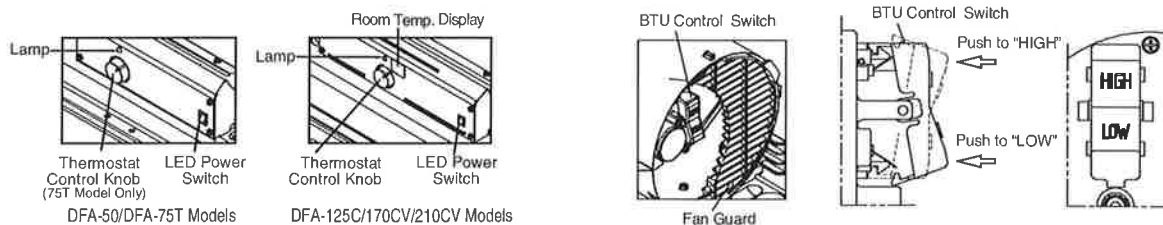

Figure 8. Controls for All Models
5. Push "BTU control Switch" to desired level "High or LOW" (DFA-170CV/DFA-210CV Models only, See Figure 8).